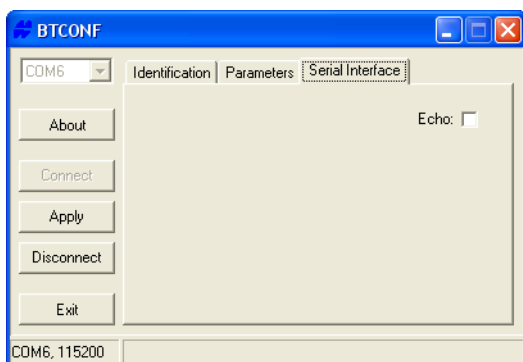

Figure 2-23. BTCONF Serial Interface Tab
8. Click the **Serial Interface** tab (Figure 2-23). Enable Echo to display Bluetooth module replies and corresponding commands on the computer terminal. Click **Apply**.